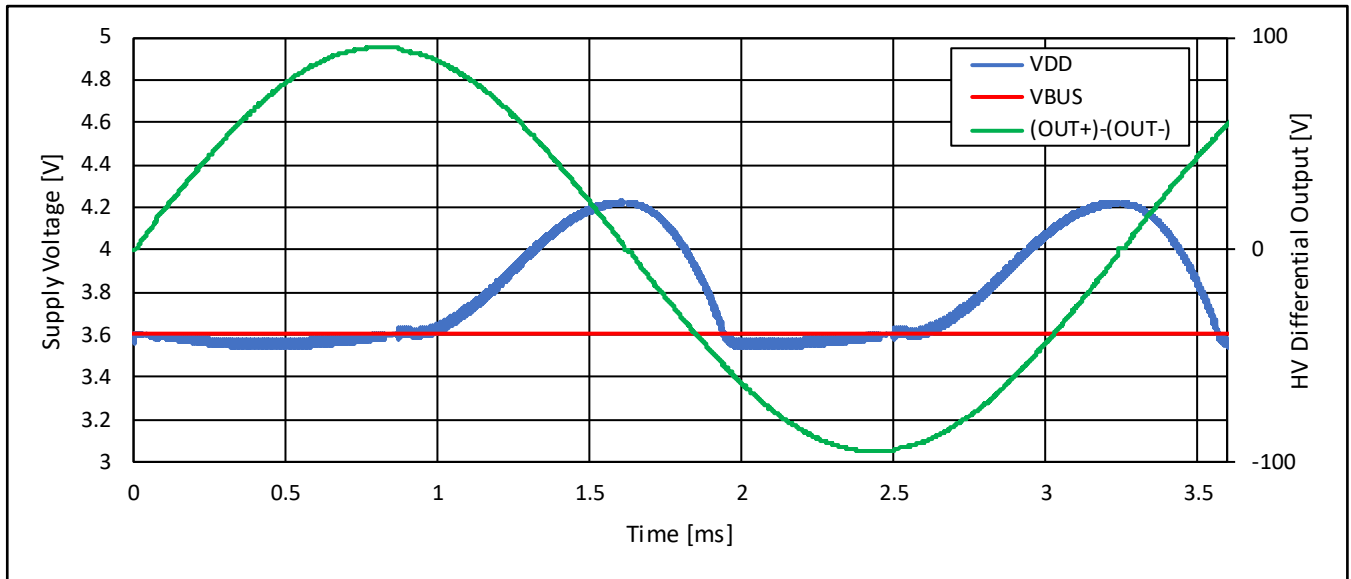

Figure 13: VDD voltage increase during energy recovery when bit UPI = high.  $C_{VDD} = 100 \mu F$ ,  $C_{Load} = 100 nF$
- Check  $V_{DD}$  and  $V_{BUS}$  voltages. These should display the energy recycling and variation during the waveform. It is normal for  $V_{DD}$  to vary significantly over a waveform cycle. An example is given at Figure 13.